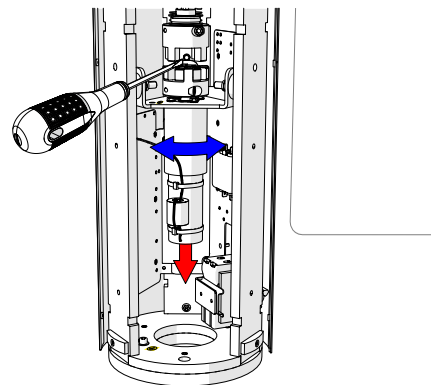

Fig. 29 - Motor replacement (Removal)
7. Pull the motor firmly downwards with small twisting and tilting movements (Fig. 29);